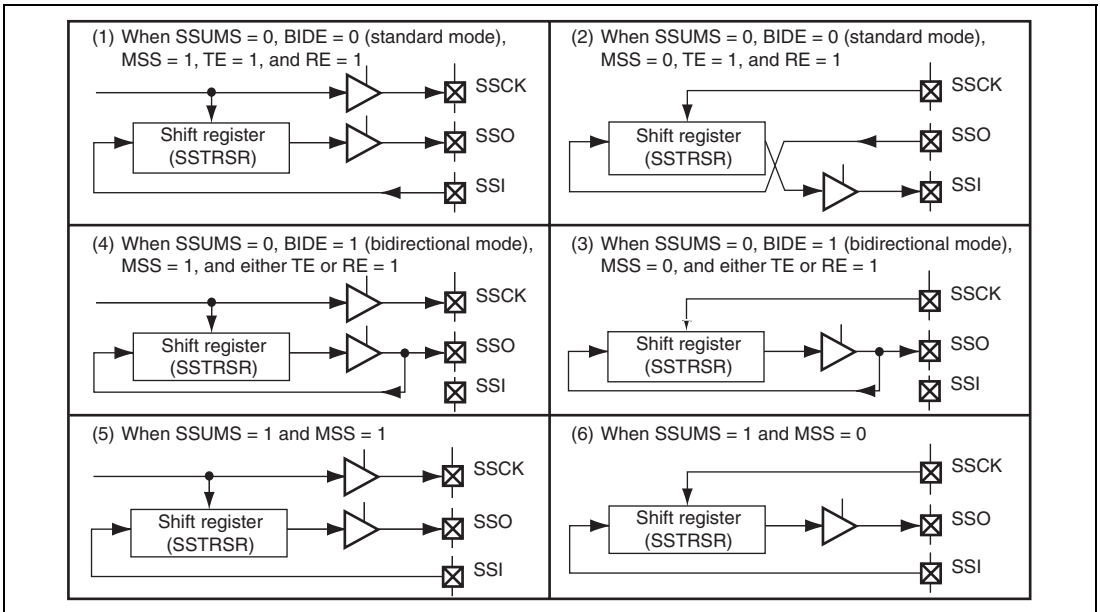

Figure 17.3 Relationship between Data Input/Output Pins and the Shift Register
The connection between data input/output pins and the SS shift register (SSTRSR) depends on the combination of the MSS and BIDE bits in SSCRH and the SSUMS bit in SSCRL. Figure 17.3 shows the relationship.
The SSU transmits serial data from the SSO pin and receives serial data from the SSI pin when operating with BIDE = 0 and MSS = 1 (standard, master mode) (see figure 17.3 (1)). The SSU transmits serial data from the SSI pin and receives serial data from the SSO pin when operating with BIDE = 0 and MSS = 0 (standard, slave mode) (see figure 17.3 (2)).
The SSU transmits and receives serial data from the SSO pin regardless of master or slave mode when operating with BIDE = 1 (bidirectional mode) (see figures 17.3 (3) and (4)).
The SSU transmits serial data from the SSO pin and receives serial data from the SSI pin when operating with SSUMS = 1. The SCK pin outputs the internal clock when MSS = 1 and function as an input pin when MSS = 0 (see figures 17.3 (5) and (6)).